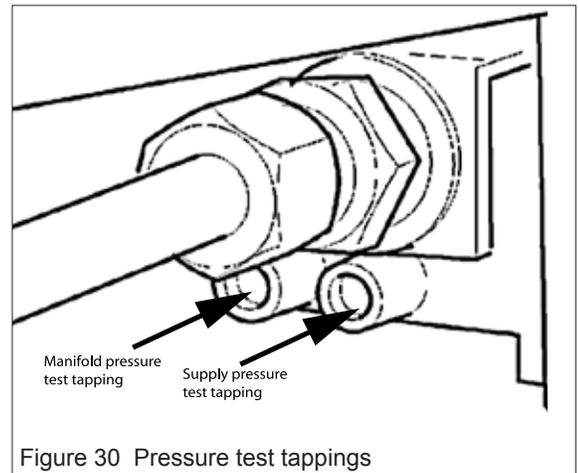

Figure 30 Pressure test tappings
- The pressure test tapping locations are shown in figure 30. A built-in non-adjustable regulator controls the burner manifold pressure. The correct pressure range is shown in the table in *Specifications* section of this manual. The pressure check should be made with the burner alight and at its highest setting. See *Lighting Instructions* section for full operating details.